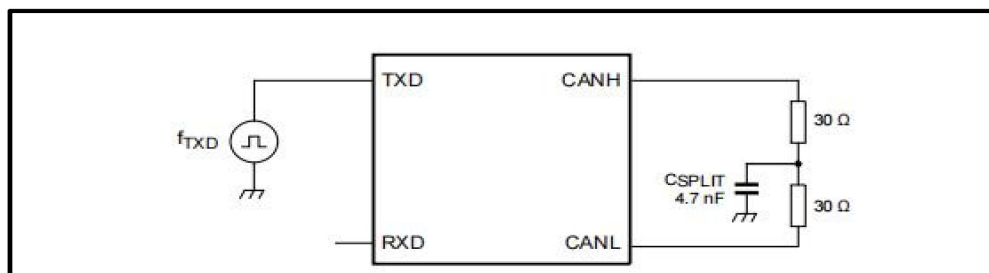

Figure 6. Test circuit for measuring transceiver driver symmetry
- (1) All circuitry is connected to VCC in the other variants.
- (2) All parameters are guaranteed over the virtual junction temperature range by design. Factory testing uses correlated test conditions to cover the specified temperature and power supply voltage range.
- (3) Undervoltage is detected between min and max values. Undervoltage is guaranteed to be detected below min value and guaranteed not to be detected above max value.
- (4) VIO = VCC in non-VIO product variants.
- (5) Not tested in production; guaranteed by design.
- (6) The test circuit used to measure the bus output voltage symmetry (which includes CSPLIT) is shown in Figure 6.